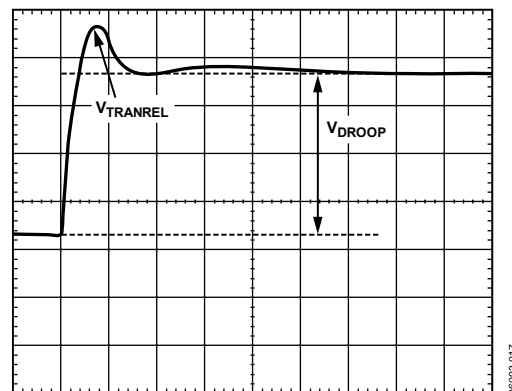

Figure 19. Transient Setting Waveform
- For load release (see Figure 19), if  $V_{TRANREL}$  is larger than the allowed overshoot, there is not enough output capacitance. Either more capacitance is needed, or the inductor values need to be made smaller. When changing inductors, start the design again using a spreadsheet and this tuning procedure.